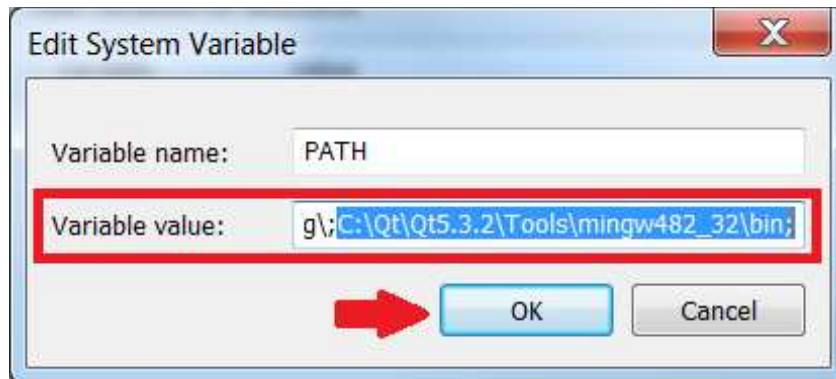

Figure 14. Insert MinGW Path
- Insert the MinGW path that was copied earlier at the end of the “Variable value” field as shown in Figure 14. Click “OK” to make the changes.